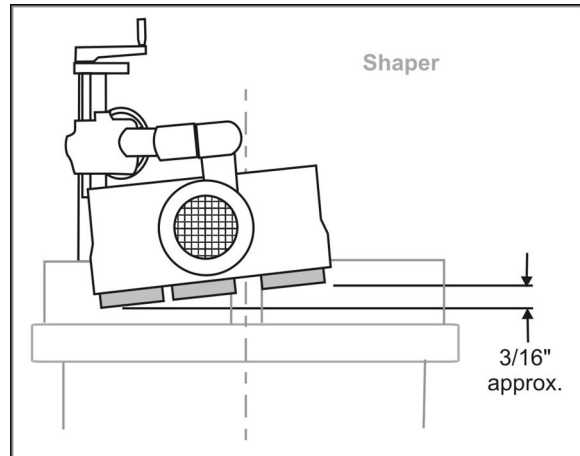

Figure 19
- When the Stock Feeder is in edgewise position, it must be inclined slightly towards the work table in the direction of feed, to ensure the workpiece remains forced down against the table. In other words, the outfeed roller should be approximately  $3/16"$  closer to the work table than the infeed roller. See Figure 19.
- When the Stock Feeder is in the edgewise position, or angled for a beveled workpiece, the axis of the cutter should be between the infeed roller and the center roller (between the two center rollers on the 4-roller model). See Figure 19. The center roller should NOT be directed toward the opening between the fences, but should act directly against the fence.